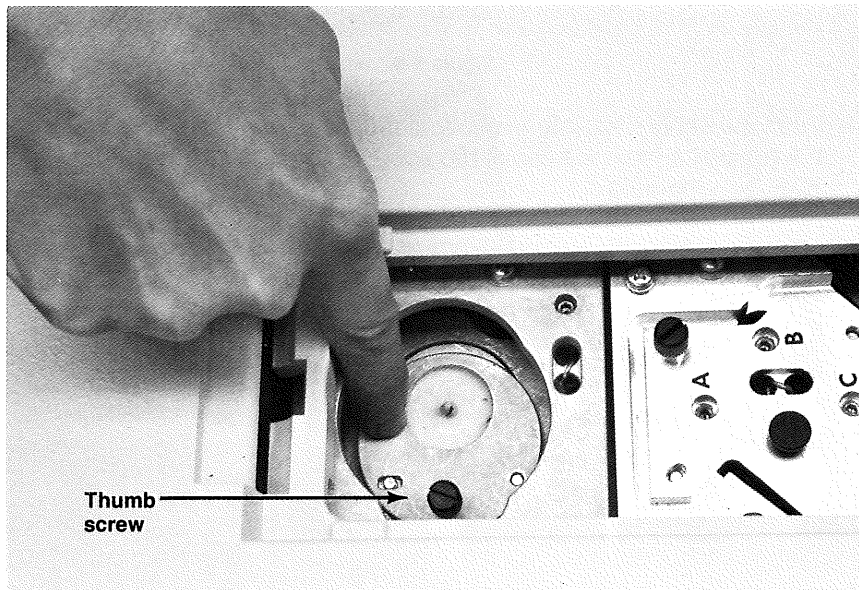

Figure 8-6.
7. Press firmly on the source bracket to ensure a tight fit. Tighten the thumb screw. See Figure 8-6.